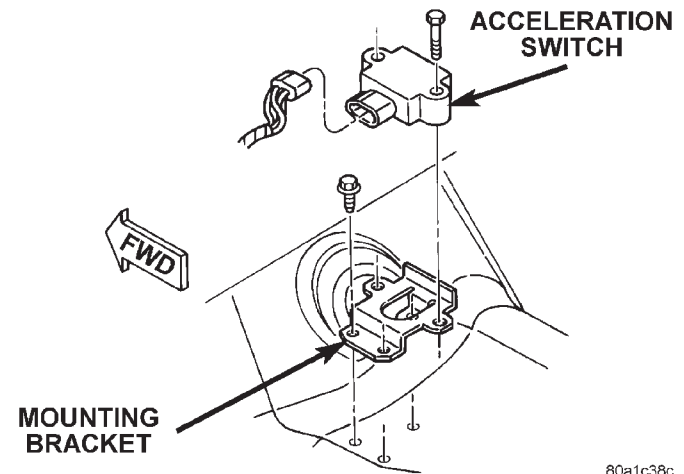

Fig. 17 Acceleration Switch Remove/Install
(1) Disconnect and isolate the battery negative cable. If either of the airbags has not been deployed, wait two minutes for the system capacitor to discharge before further service.
(2) Pull back the carpet from the floor panel transmission tunnel area under the heater-A/C housing floor duct and forward of the full floor console or mini floor console.
(3) If the vehicle is equipped with the optional Anti-lock Brake System (ABS), remove the acceleration switch and mounting bracket from the floor panel transmission tunnel (Fig. 17). Refer to **Acceleration Switch** in the Removal and Installation section of Group 5 - Brakes for the procedures.